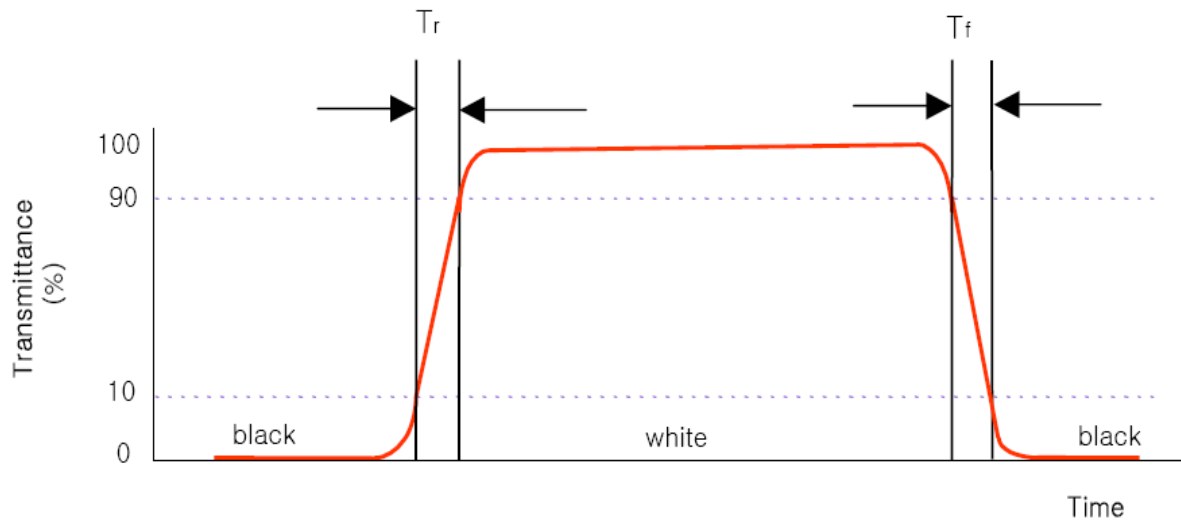

FIG.3 The definition of Response Time
4. Response time is the time required for the display to transit from black to white (Rise Time, Tr) and from white to black (Decay Time, Tf). For additional information see FIG 3.